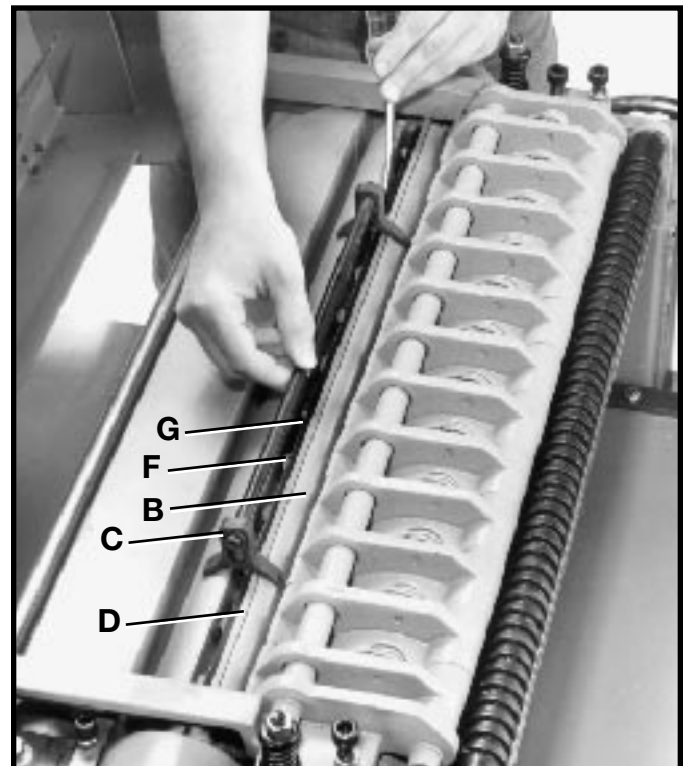
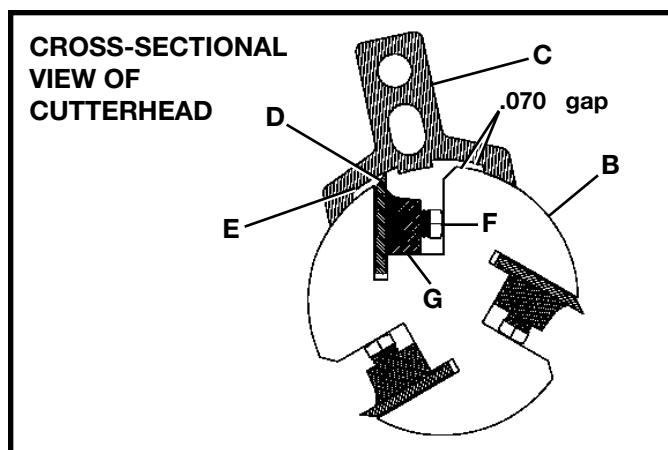

Fig. 34
Fig. 35
3. Carefully place knife setting gage (C) Figs. 34 and 35, so the gage is positioned on the radiused section of cutterhead (B). When set correctly, knife (D) Figs. 34 and 35, should just contact the bottom of inset section (E) Fig. 35 of knife setting gage (C) which is set at .070 . Check the remaining knives in the same manner.
4. If an adjustment to one or all three knives is necessary, slightly loosen the 12 locking screws, 10 of which are shown at (F) Fig 34 and also in Fig. 35, just enough to relieve stress in cutterhead (B) and not disturb the knife setting.
5. With knife setting gage (C) Figs. 34 and 35 still in place on the cutterhead, continue to adjust the knife that must be reset by turning the 12 knife locking screws **CLOCKWISE** until knife locking bar (G) becomes loose. Lifter springs (not shown) located under the knife will automatically raise the knife until it comes in contact with the gage (C). Then snug up the knife locking bar (G) Fig. 34 and Fig. 35, by turning the ten screws (F) **COUNTERCLOCKWISE**. **IMPORTANT: AT THIS TIME, ONLY TIGHTEN THE KNIFE LOCKING BAR (G) JUST ENOUGH TO HOLD THE KNIFE (D) IN POSITION INSIDE THE CUTTERHEAD SLOT.**
7. After all the knives are positioned in the cutterhead with the knife locking screws snug, turn each of the 12 locking screws (F) Fig. 34, **COUNTERCLOCKWISE UNTIL THE KNIVES ARE SECURE IN THE CUTTERHEAD. NOTE:** When tightening the knife locking screws (F), tighten the end screws first, then proceed inward toward the center of the cutterhead.
9. Carefully place knife setting gage (C) Fig. 34, so it is positioned on the radiused section of the cutterhead (B) Fig. 35.
10. Loosen knife locking bar (G) Figs. 34 and 35, by turning 12 knife locking screws, 10 of which are shown at (F) **CLOCKWISE** and carefully remove locking bar (G), knife (D), and springs (not shown) which are located under the knife, from the cutterhead. Remove the remaining knives in the same manner.
12. Carefully replace the springs (not shown), knives (D) Fig. 35, and knife locking bars (G) into the three slots in the cutterhead (B). **IMPORTANT: WHEN REPLACING KNIFE LOCKING BARS (G) FIG. 35, AGAINST KNIVES (D) AS SHOWN IN THE CROSS SECTIONAL ILLUSTRATION, MAKE CERTAIN KNIFE LOCKING BARS (G) ARE INSTALLED AS SHOWN, WITH LOCKING SCREWS (F) HOLDING KNIVES (D) PROPERLY INSIDE THE CUTTERHEAD SLOTS. TURN ALL KNIFE LOCKING SCREWS, ONE OF WHICH IS SHOWN AT (F), COUNTERCLOCKWISE, JUST ENOUGH TO HOLD THE KNIVES IN THE CUTTERHEAD.**